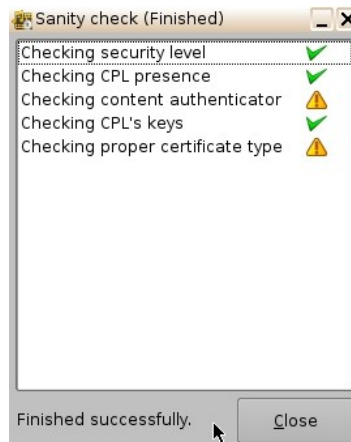

Figure 79: Decryption Keys Tab
- The Sanity Check window will appear displaying the results of the Sanity Check (Figure 79).
- The results of the Sanity Check are displayed in the bottom-left corner of the Sanity Check window (Figure 79).
- Once the Sanity Check is completed, click the Close button (Figure 79).